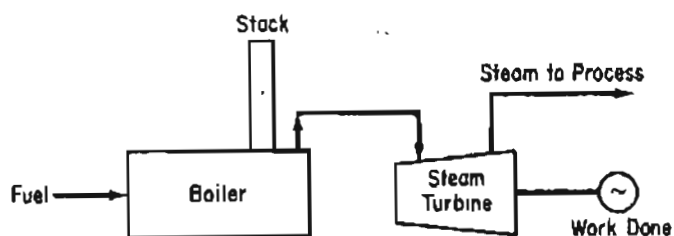

Figure P24.7
- (b) Cogeneration (generation of steam both for power and heating) involves the use of gas turbines or engines as prime movers, with the exhausted steam going to the process to be used as a heat source. A typical installation is shown in Figure P24.7.